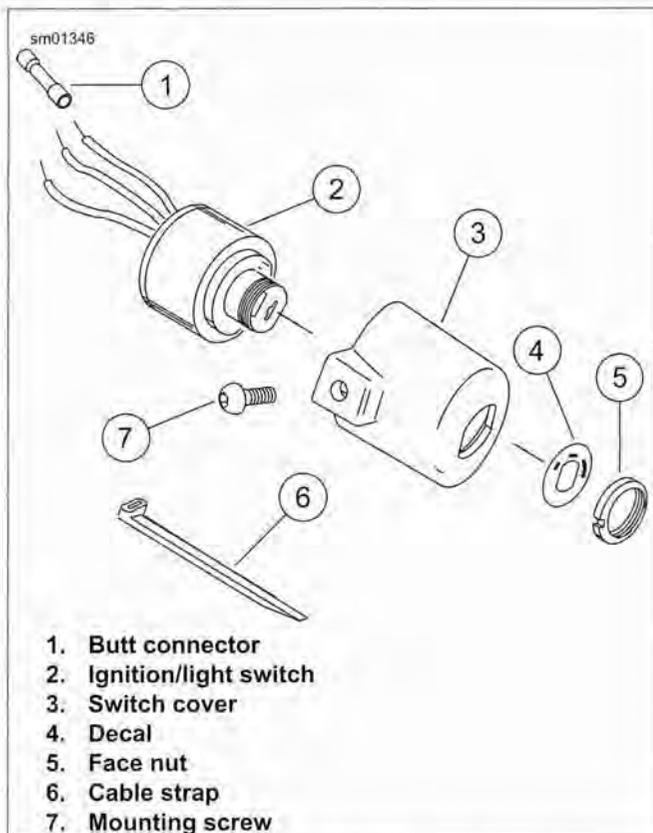

Figure 6-35. Ignition/Light Switch Assembly
3. See Figure 6-35. Remove ignition switch face nut (5).
6. Remove mounting screw (7). Remove switch cover (3). Remove switch (2) from switch cover (3).
4. See Figure 6-35. Insert ignition switch into hole of switch cover. The word "TOP" stamped on the switch body should face upward toward the lettering on the switch position decal. Loosely install face nut (5).
5. Install and tighten mounting screw (7) to 35-45 in-lbs (4.0-5.1 Nm).
6. Tighten face nut (5) to secure switch (2) within cover (3).
7. Using **new** cable strap (6), secure ignition switch harness to wire harness caddy.